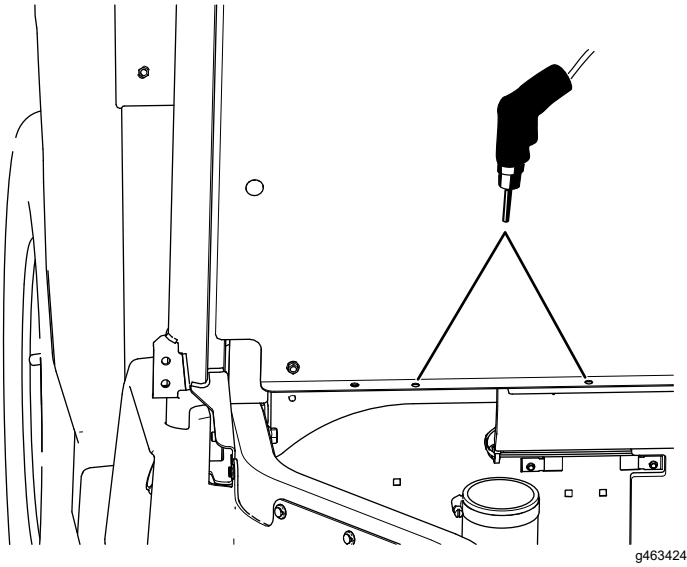

Figure 64
- D. Move the CVT-intake hood and drill the 2 holes (11/32 inch) into the seat panel (Figure 64).